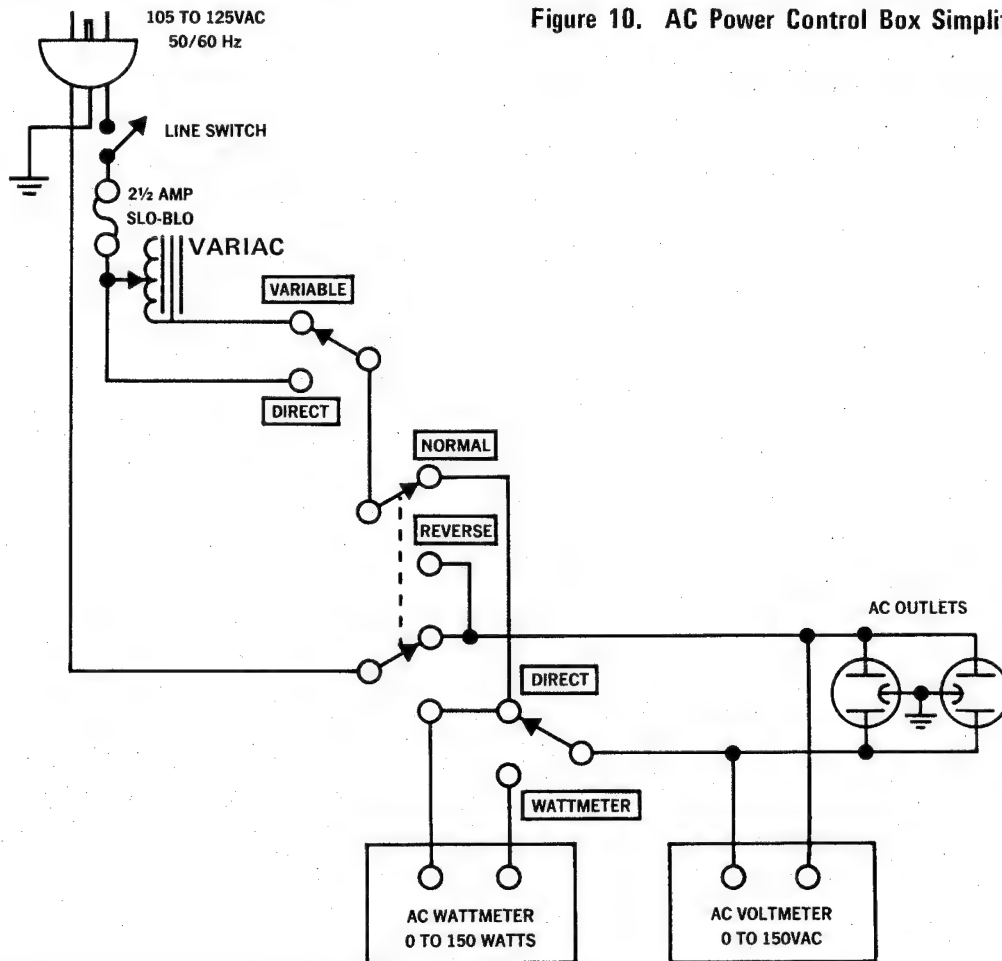

Figure 10. AC Power Control Box Simplified Schematic
2. Press the momentary switch (Figure 10) to a short circuit condition for no longer than three seconds. Verify the ac ammeter indicates no more than 9.5 amperes.